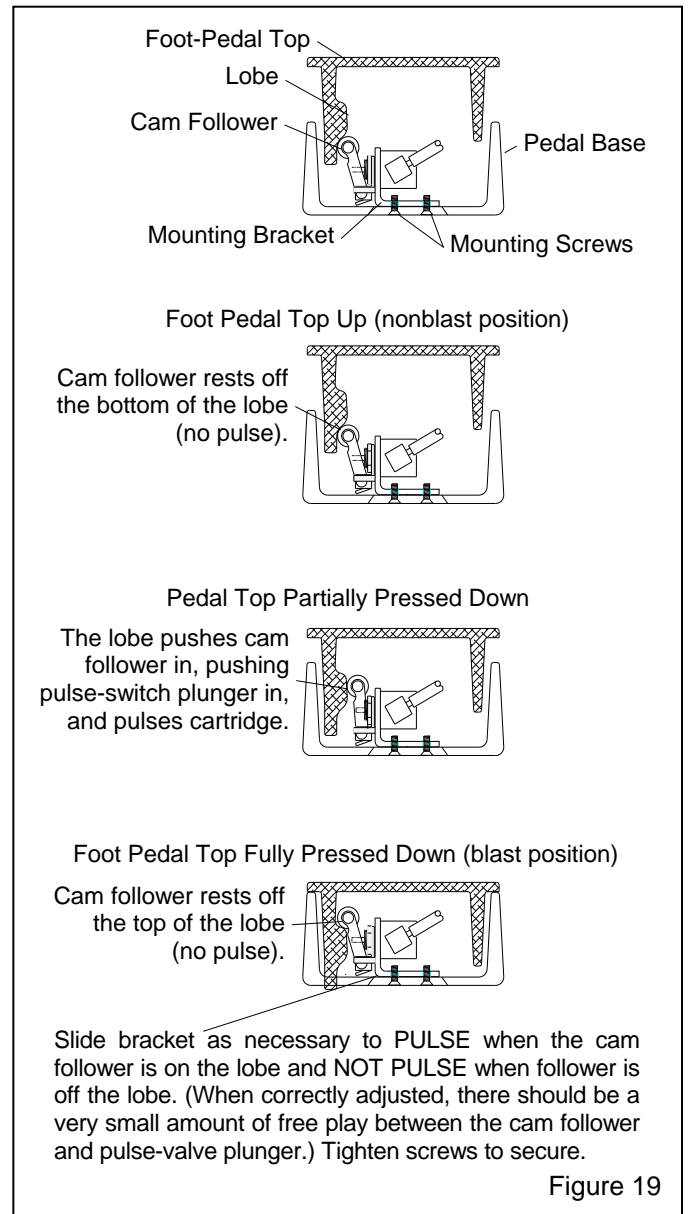

Figure 19
**4.3.5** Refer to the illustrations in Figure 19 and slide the pulse assembly as needed so the cam follower is off the lobe when the pedal is up, on the lobe when the pedal is partially pressed, and off the lobe when the pedal is fully pressed. Tighten the screws to prevent movement.